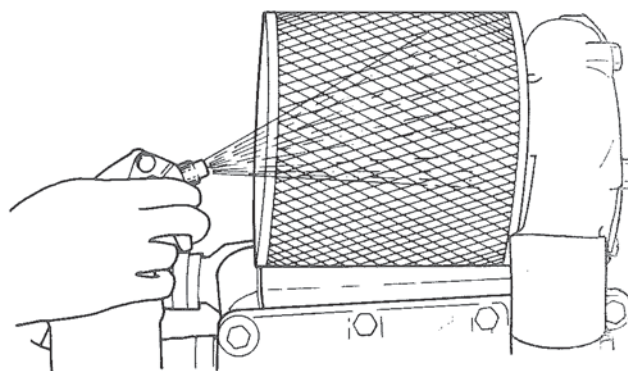

Figure 35. Cleaning Turbocharger.
2. Spray 2 ozs. (56.7 G) (1 oz. (28.4 G) per minute) of clean diesel fuel into the air intake. A pump type oil can or hand pump atomizer should be used. Figure 35.